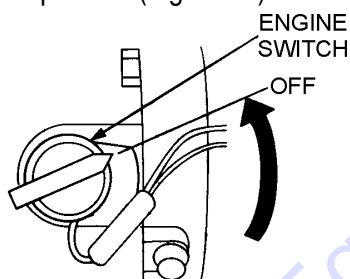

Figure 47. Engine ON/OFF Switch (OFF Position)
2. After the engine cools, turn the engine start/stop switch to the "OFF" position (Figure 47).